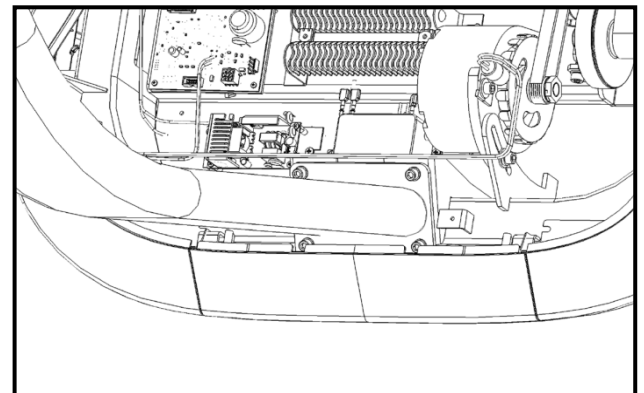

Fig. 6
- Mount the neck mast (Fig. 6) to the base by lightly torquing four socket head cap screws in place at the front of the base frame.